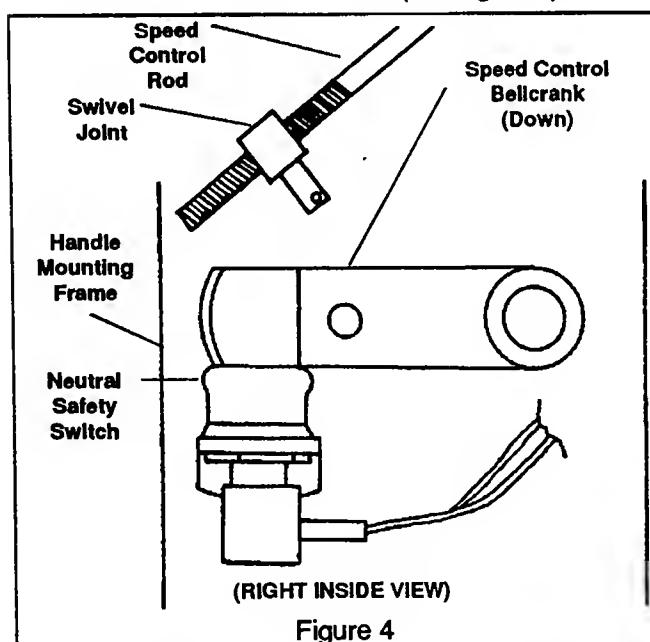

Figure 4
b) Insert end of swivel joint through hole in speed control bellcrank and secure with hair pin. Rotate bellcrank forward and down (See figure 4).